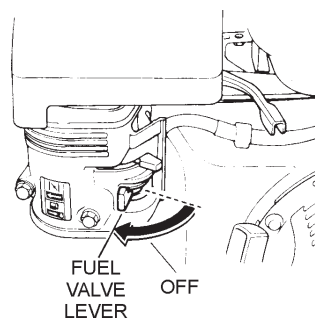

Figure 18. Fuel Valve Lever (OFF)
3. Place the **fuel shut-off lever** (Figure 18) in the "OFF" position.